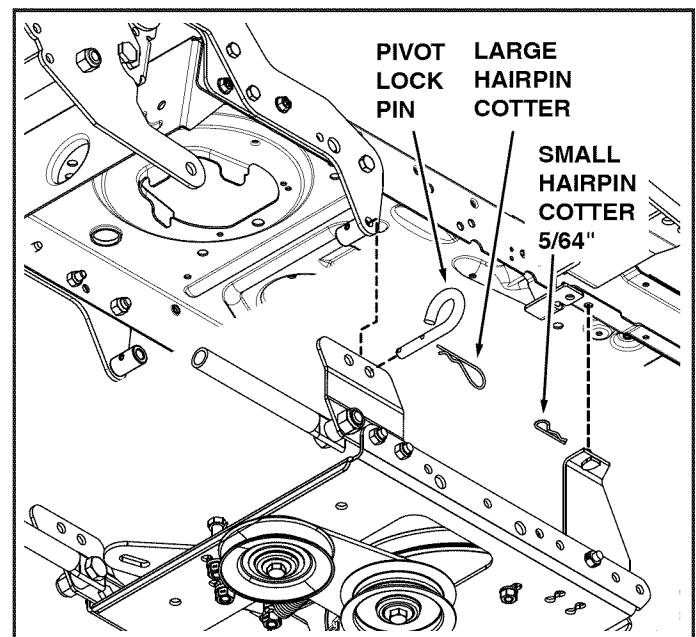

FIGURE 26
STEP 12: (SEE FIGURE 26)
STEP 1: (SEE FIGURE 26)